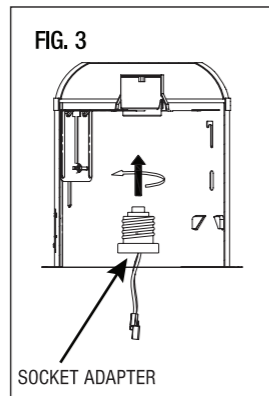

FIG. 3
- Thread the socket adapter into the socket as shown in FIG. 3.